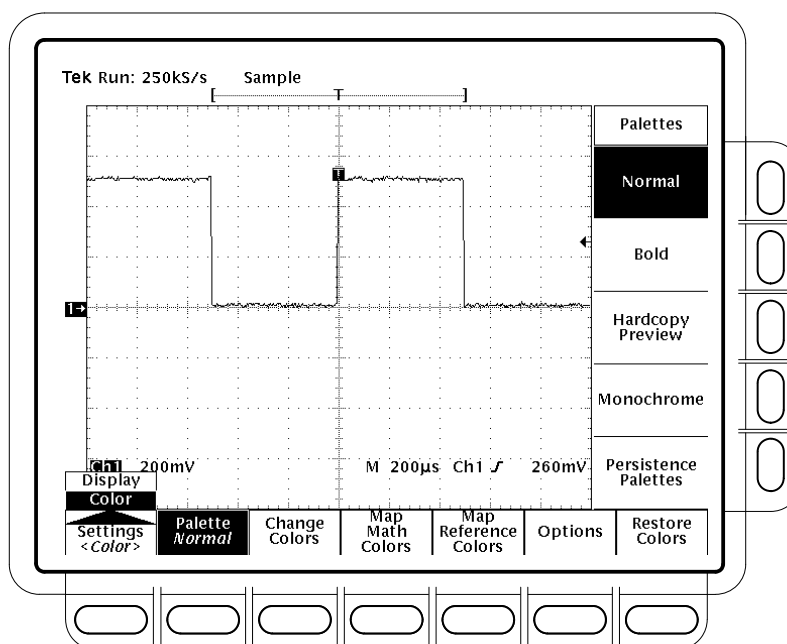

Figure 3–19: Display Menu — Setting
2. Press **Settings** in the main menu until you select **Color** from the pop-up menu. (See Figure 3–19.)